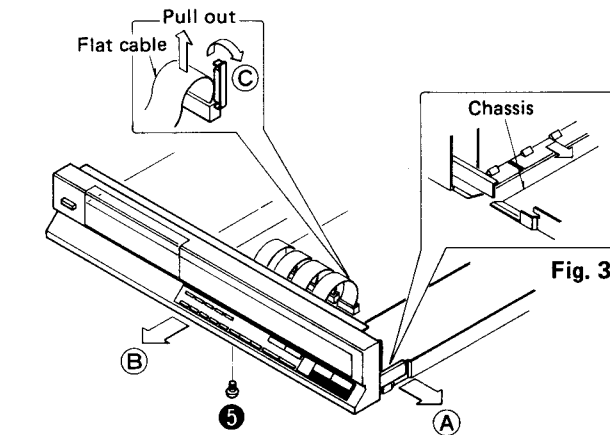

Fig. 2
2. Remove the front panel setscrew, [Fig. 2 : ⑤].
3. Slightly open the front panel on both sides (arrow A in Fig. 2), then remove the front panel from the projection of chassis.
4. Remove the front panel in the direction of the arrow B, with care not to scratch the disc holder. [Fig. 2]
5. Open the lid of 4 connectors (CN401 ~ CN404) of main P.C.B. (arrow C in Fig. 2) and then pull out the flat cable.